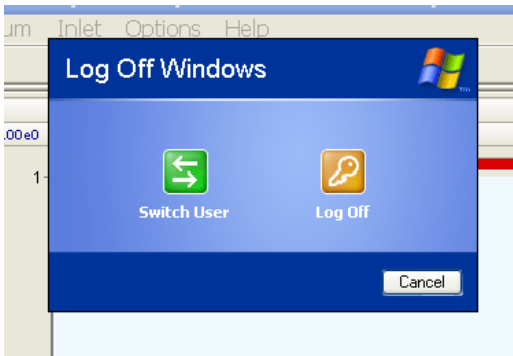

Figure 13
4. To log off, close the tune page. Then click on “Log Off” from the start menu, then “Switch User” from the next window that pops up (Figure 13). Turn off the monitor and sign the log book.